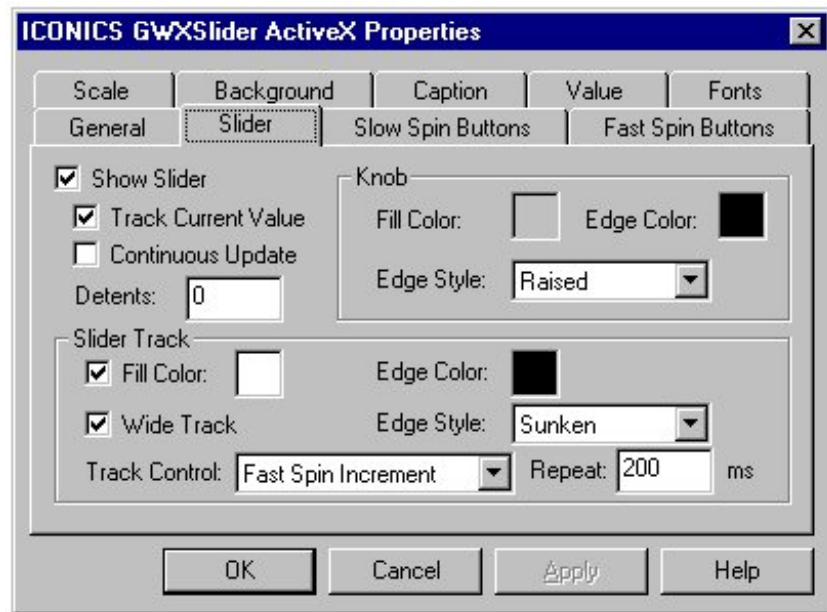

Figure 17-5: GWXSlider ActiveX Properties Dialog Box: Slider Tab
2. Select the Slider tab (Figure 17-5).